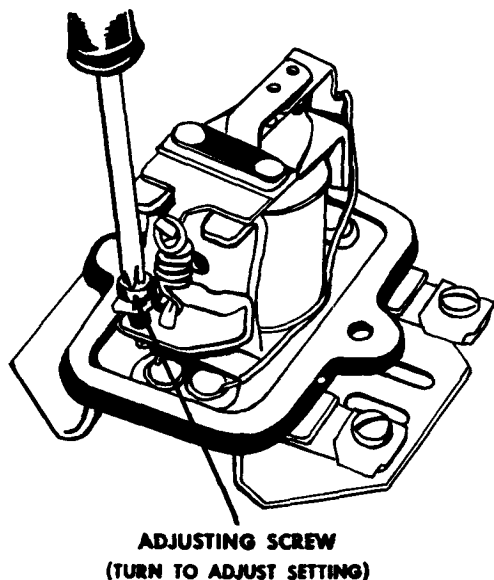

Figure 18—Adjusting relay closing voltage.
3. Operate the generator at moderate speed. The relay contacts should be open. If they are not, and the generator is supplying rated voltage, turn the adjusting screw (Fig. 18) until the contacts separate.
6. To adjust the closing voltage, turn the adjusting screw as shown in Figure 18.